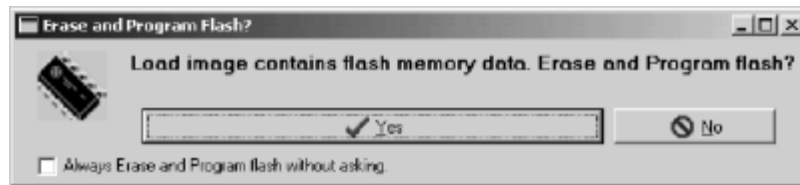

Figure 4-35: Erase And Program Flash Window
11. Click Yes in Erase and Program FLASH window. **(Figure 4-35)**